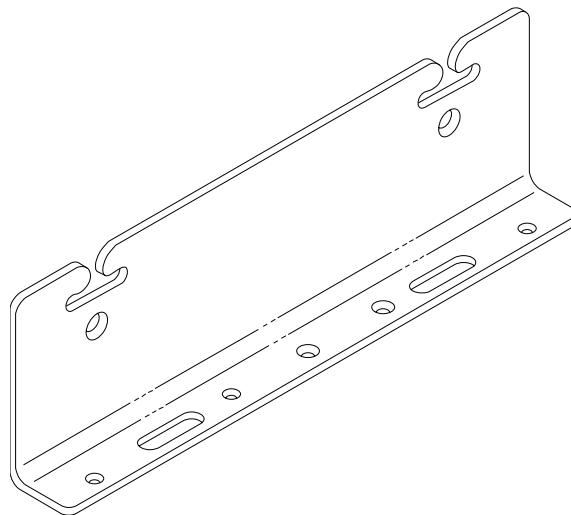

Figure 6. VCA100 Mounting Bracket
3. Attach the two L-shaped mounting brackets (Figure 6) to the sides of the VCA100 using four #6-32 countersunk machine screws if holes are used, or thumbscrews if quick-release slots are used. Attach the wide edge of the bracket to the VCA100; attach the narrow edge to the vehicle.